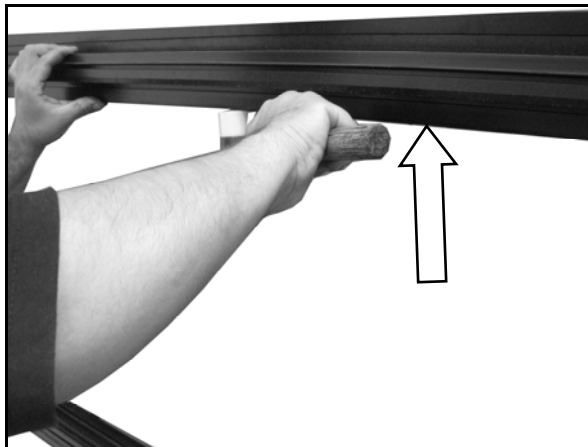

FIGURE 3-10. INSTALL TOP CLIP FIRST
- 3) Refer to **Figure 3-10**. Verify that clips are securely fastened. Use a plastic tip mallet to lock clips in place. If clips are hand loose, new sets of clips must be ordered and installed.